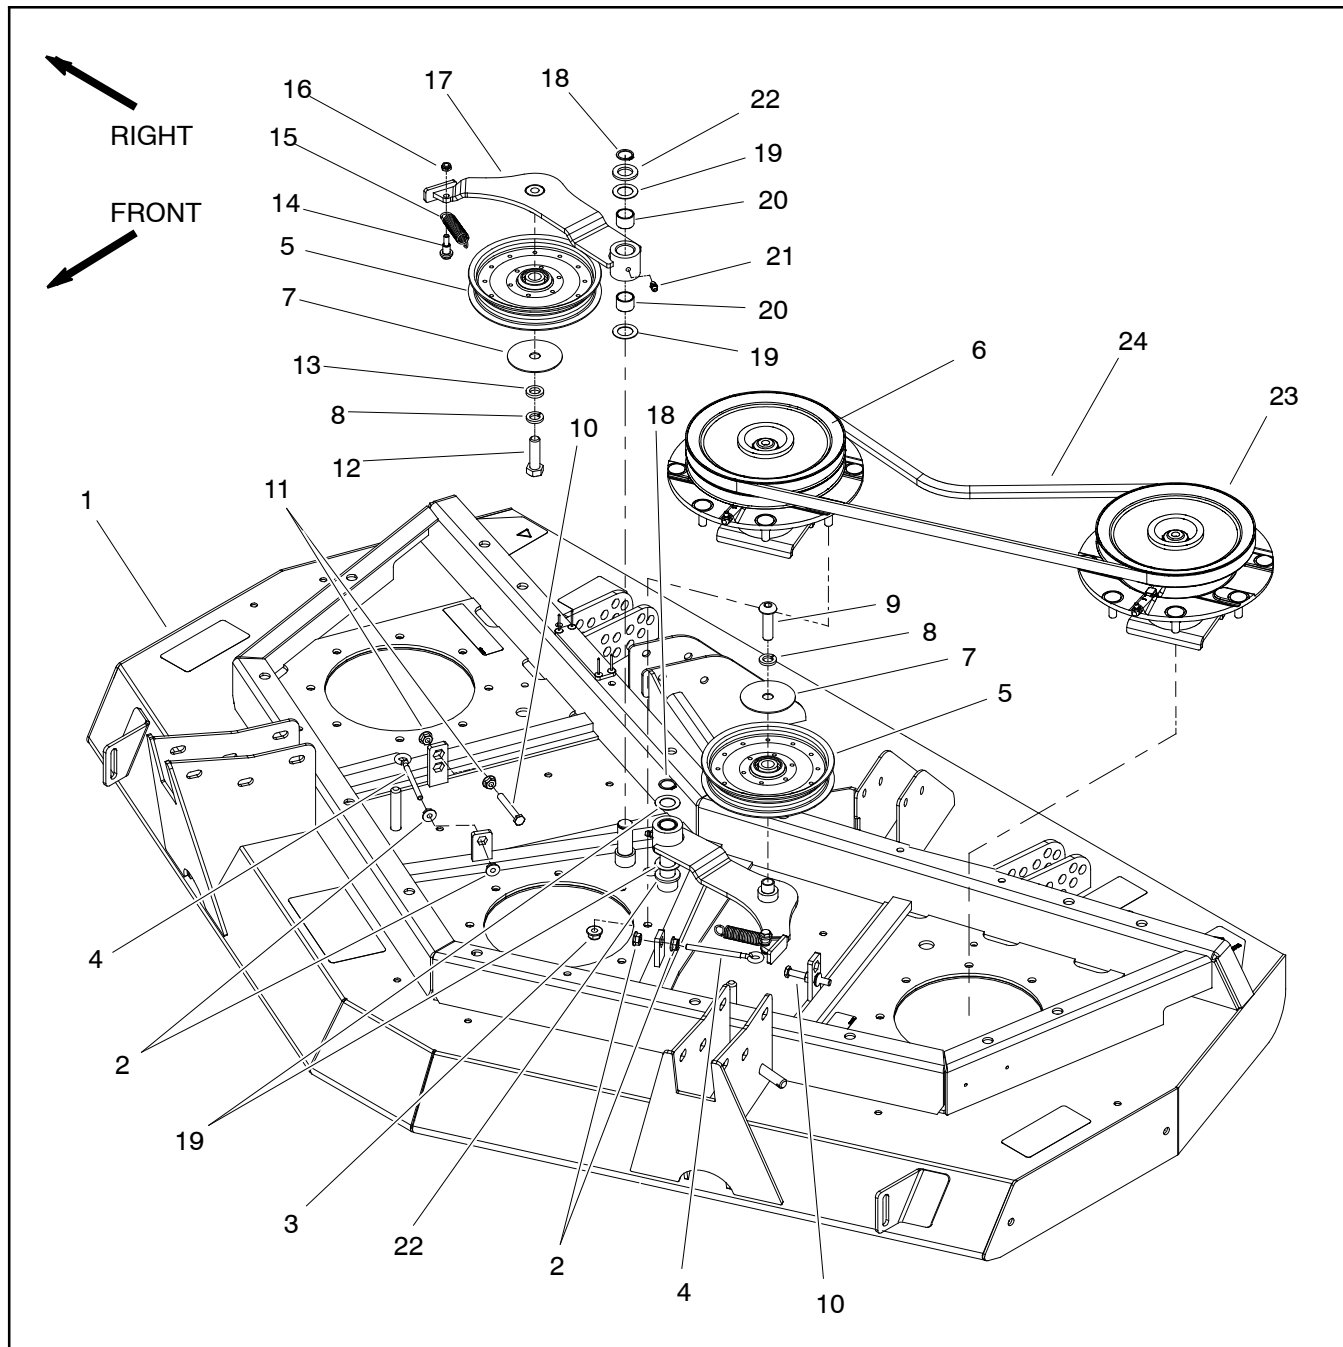
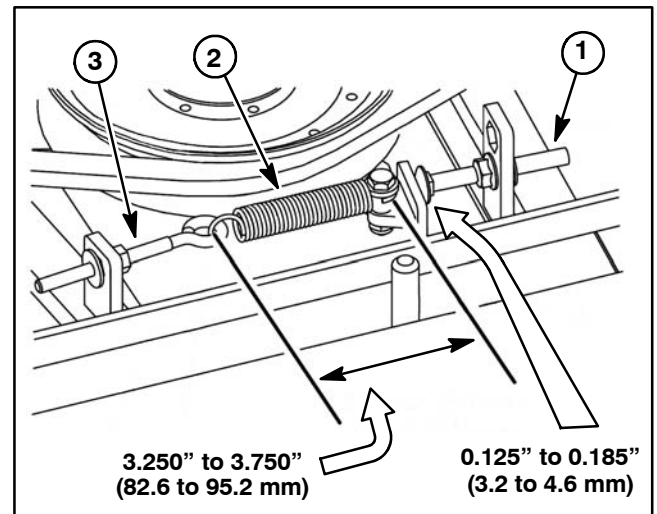

Figure 9
Figure 10
NOTE: The front deck is shown in Figure 9. The idler assemblies used on the side decks use the same idler components.
Removal (Fig. 9)
3. Use spring hook tool to unhook the idler spring (item 15) from the adjusting screw (item 4).
5. Loosen flange nuts (item 11) that secure idler stop bolt (item 10) to cutting deck to allow clearance between idler arm and stop bolt.
6. Remove idler components as needed using Figure 9 as a guide. Note location of washers, idler spacer and screw as idler assemblies are being removed.
Installation (Fig. 9)
1. Install removed idler components using Figure 9 as a guide.
A. Make sure that one (1) thrust washer (item 19) is placed above and below the idler arm. Location of additional washer (item 22) depends on whether the idler pulley mounts on the bottom side of the idler arm or on the top of the idler arm.
C. If idler stop bolt (item 10) was removed from deck, make sure that it is installed in the hole that allows the stop bolt head to align with the idler arm.
3. Use spring hook tool to attach the idler spring (item 15) onto the adjusting screw (item 4) and shoulder bolt on idler arm.
4. With the idler arm tensioning the drive belt, the idler spring hook to hook length should be from **3.250" to 3.750" (82.6 to 95.2 mm)** (Fig. 10). If necessary, disconnect spring and change position of adjusting screw. When idler spring is the correct length, tighten second flange nut to secure idler adjustment.
5. Adjust location of idler stop bolt so that the clearance between idler arm and idler stop bolt head is from **0.125" to 0.185" (3.2 to 4.6 mm)** (Fig. 10).